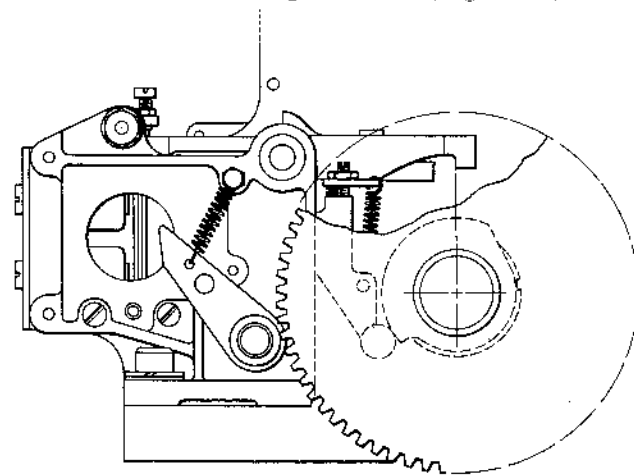

Figure 27. Clutch Position
1. Set the clutch so that the latch arm is on the vertical centerline of the picker cam shaft within .005" (Figure 27).